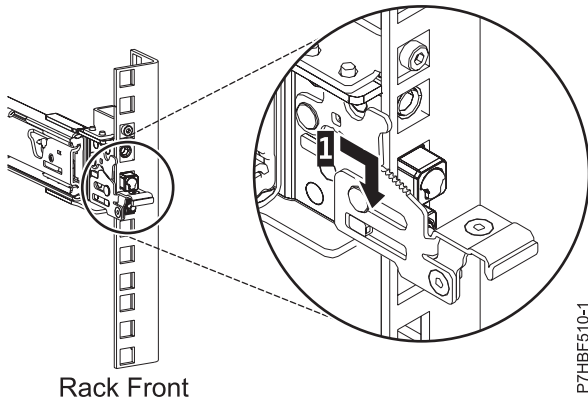

Figure 6. Front rail of the rack with pins seated
6. Pull the slide rail forward and insert three pins on the front of the rail into the holes within the selected U that were previously marked. Lower the slide rail down **(1)** to engage the hook feature on the middle pin, as shown in Figure 6.